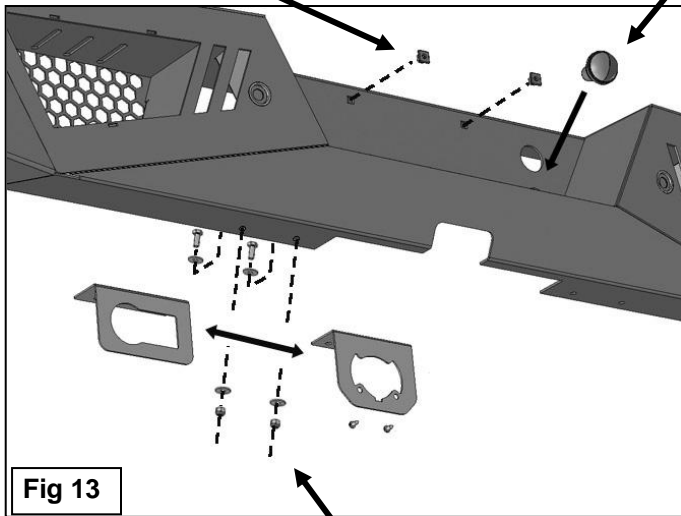

Fig 13
9. Use the included (2) push-in Plastic Nuts to attach the rear license plate to the (2) holes in the Bumper, **(Figure 13)**. Insert the License Plate Light into the hole in the bumper, **(Figure 13)**. Attach the License Plate Light wire to the end of the factory license plate light wire harness.
10. Select the correct mounting plate for your trailer harness plug. Attach the mounting plate to the bottom of the bumper with (2) 6mm Hex Bolts, (4) 6mm Flat Washers and (2) 6mm Nylon Lock Nuts, **(Figure 13)**. **NOTE:** On 2011-14 models, use the included (2) Self Tapping Screws to attach the trailer plug to the Bracket, **(Figure 13)**.